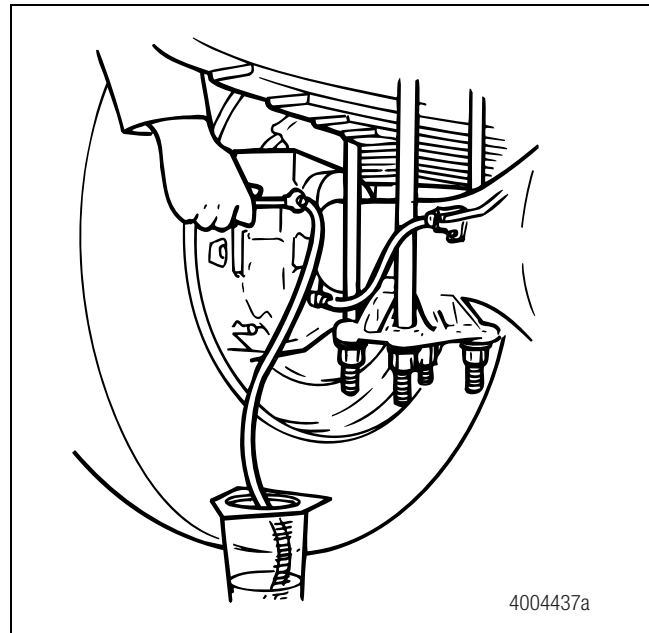

Figure 4.59
- C. Use a wrench to open the bleeder fitting screw. Figure 4.59.